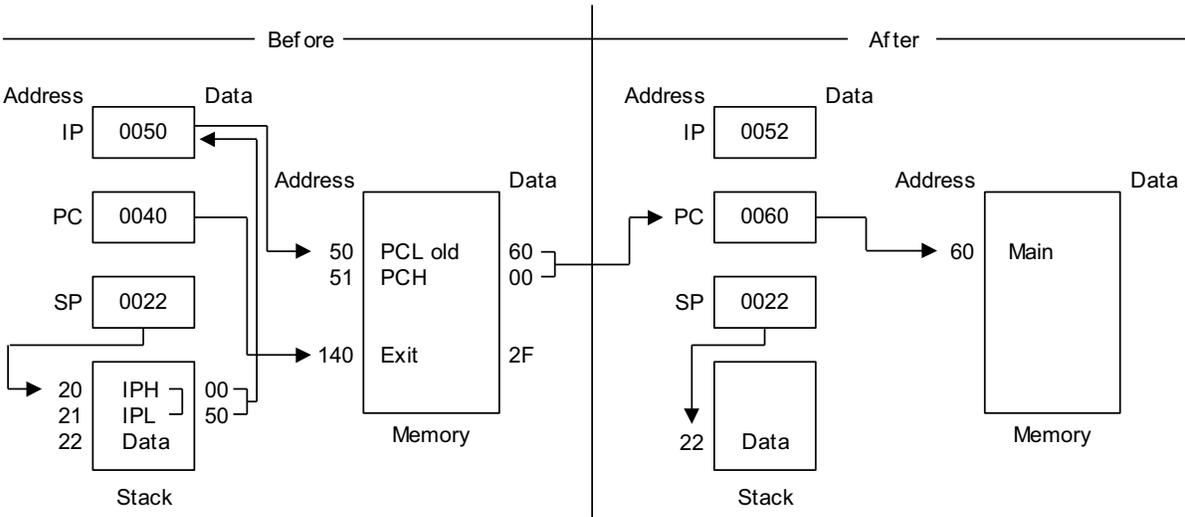

Figure 51. How to Use an EXIT Statement
**Example** Figure 51 shows an example of how to use an *EXIT* statement.